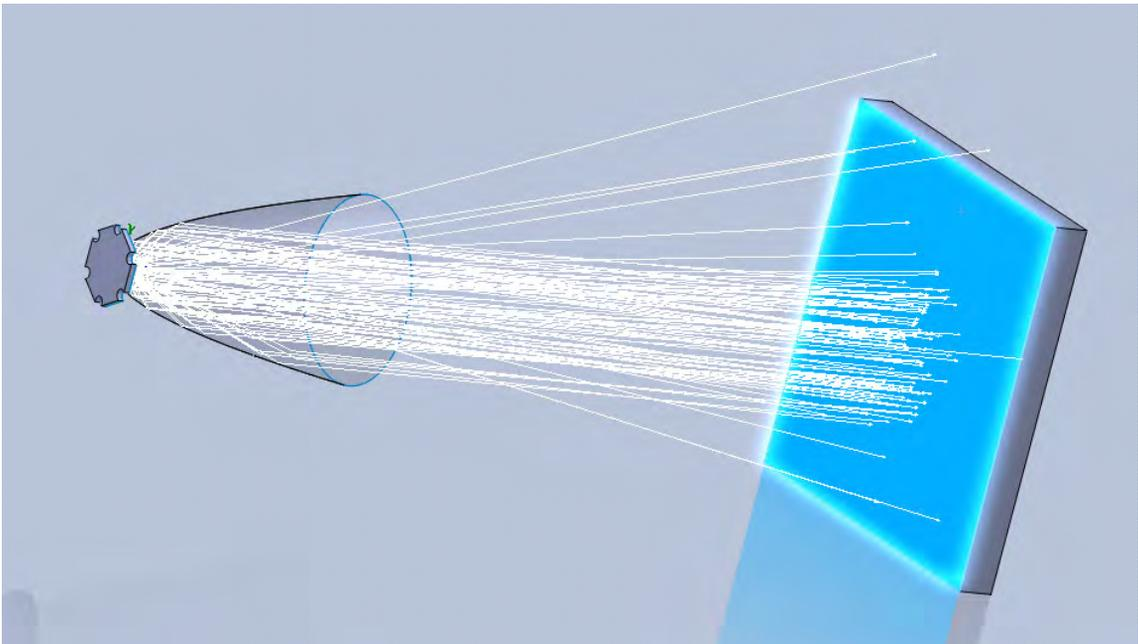

Figure 81 Highlighted front face
- 2 Click the front face of the target to highlight it. See Figure 81.